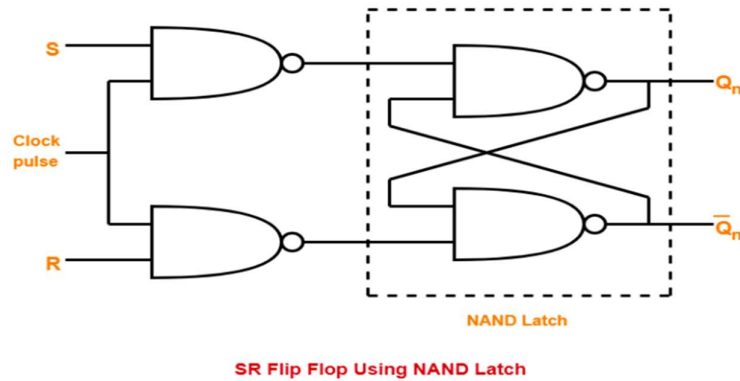

Figure 3: S-R Flip flop using NAND latch
- 2) Write a verilog module for NAND gate and utilize it to develop a structural verilog module for S-R flip flop as per figure 3.